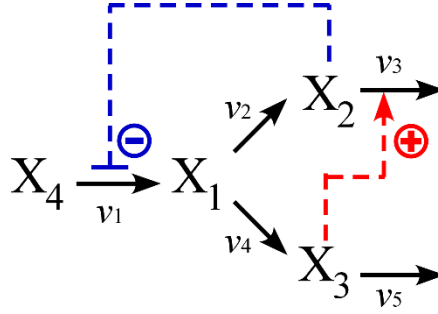

Fig. S1: Simple pathway metabolic reaction model
- 4) Open the file **initial.dat** and input necessary values. Then save the data and close the file. As an example, consider the settings for a simple pathway metabolic reaction model shown in **Fig. S1**. **Fig. S2** displays the settings for this model.